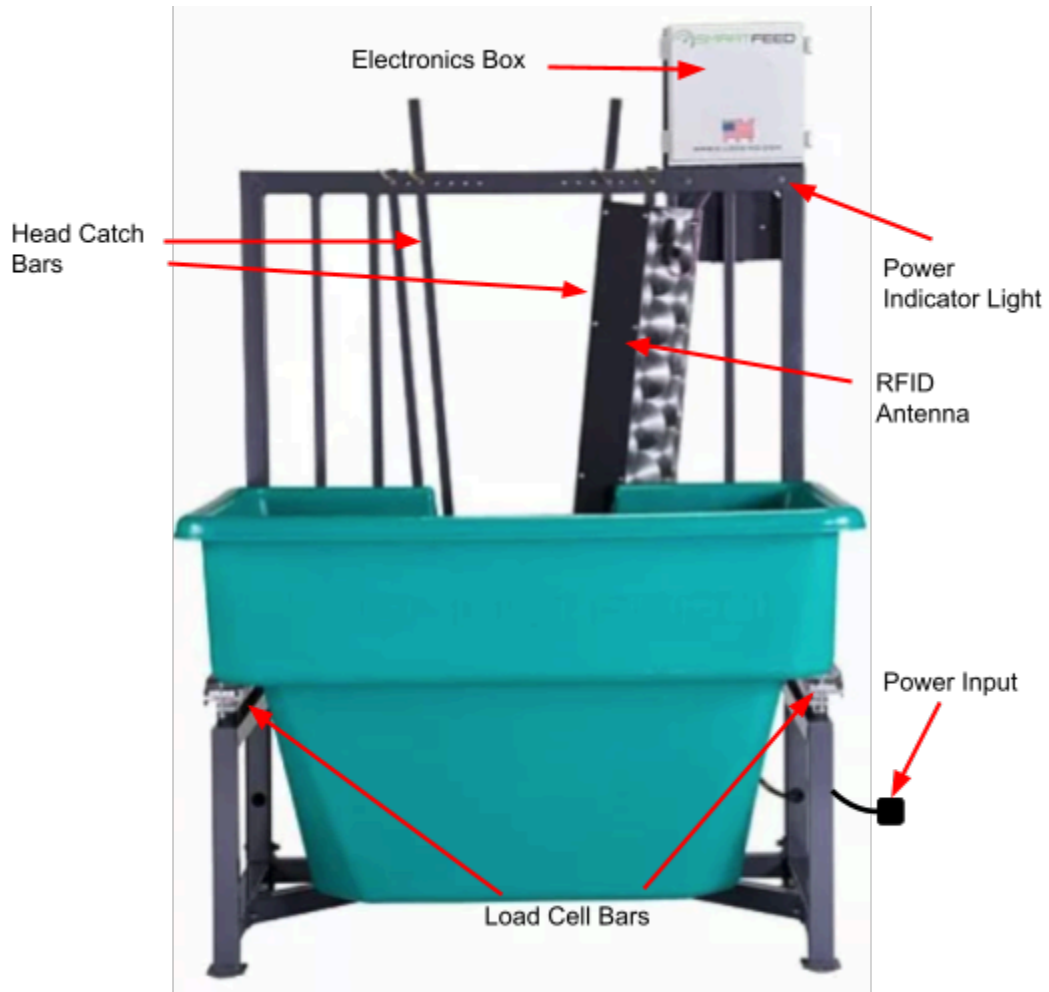

Figure 1) Reflects the back of the SmartFeed with the Poly Bin
1. Locate the power receptacle (“Power Input”). (See Figure 1.)